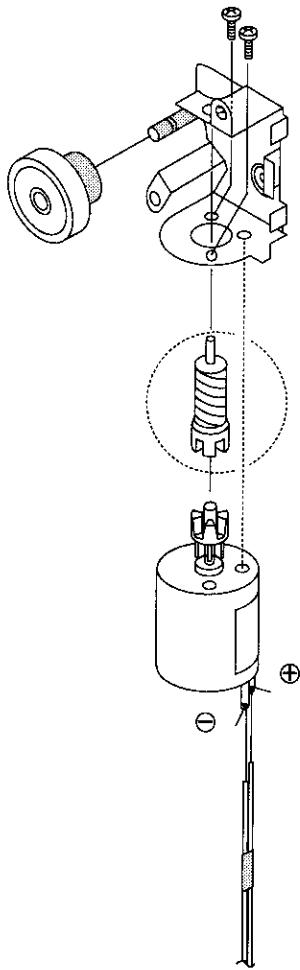

Figure 4-51.
① Take out the old loading motor. Place a replacement loading motor as shown above (Figure 4-51.).